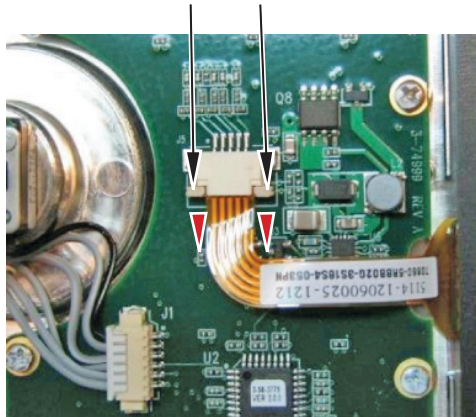

Figure 8-12. Keypad Touch Screen Connector
4. Remove the Rotary Encoder, Speaker, Touch Screen and Main Board connectors from the Keypad PCB. Note that the Touch Screen connector has two locking tabs that must be pulled down (out) before removing the connector from the Keypad PCB. See Figure 8-12 for Touch Screen cable connection.
4. Remove the touch screen flex circuit connector from the Keypad PCB by pulling the tabs on each side of the connector away from the connector and in the direction of the flex circuit, Refer to Figure 8-12.